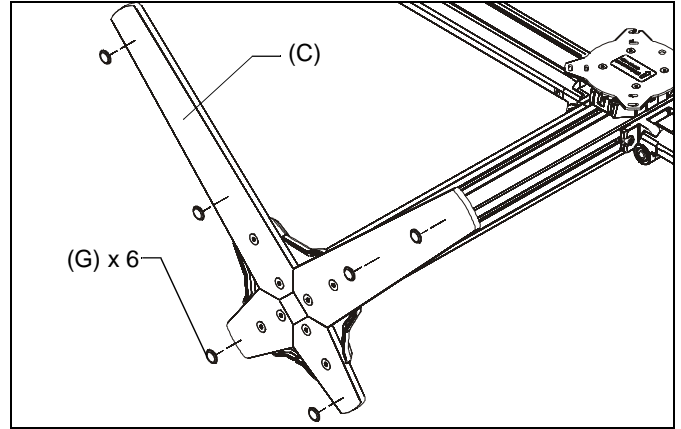

Figure 6
6. Apply bumpers (G) to underside of table top base (C). (See Figure 6)